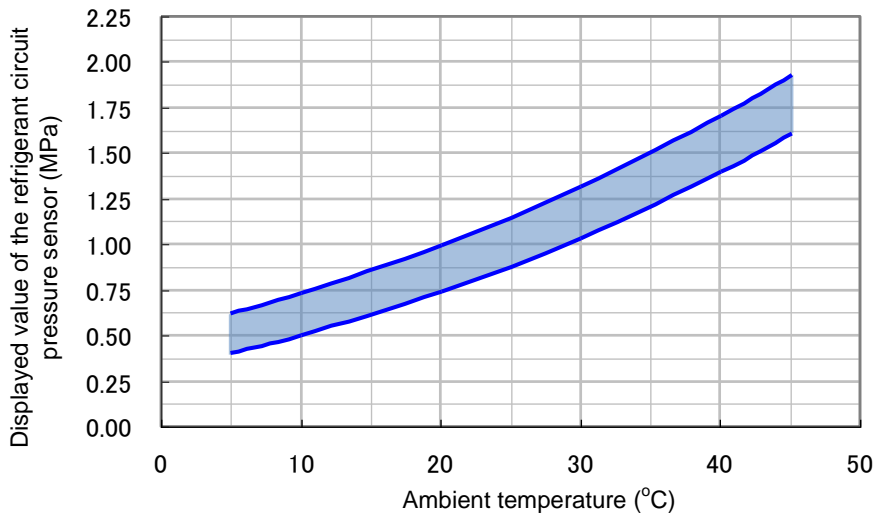

Fig. 3.3-51 Ambient temperature and refrigerant circuit pressure
- (1) Leave the Thermo-Chiller not operating for 24 hours to make the ambient temperature and the temperature inside the Thermo-Chiller the same.
- (2) Check the ambient temperature.
- (3) Check the "Ph: Refrigerant circuit pressure on the high pressure side" value in the "Check Monitor Menu".
- (4) Check if the value at the cross point of the ambient temperature and the "Ph: Refrigerant circuit pressure on the high pressure side" value is within the range (the shaded part) in Fig. 3.3-51. If the cross point is within the range, it means that the pressure sensor is operating correctly.